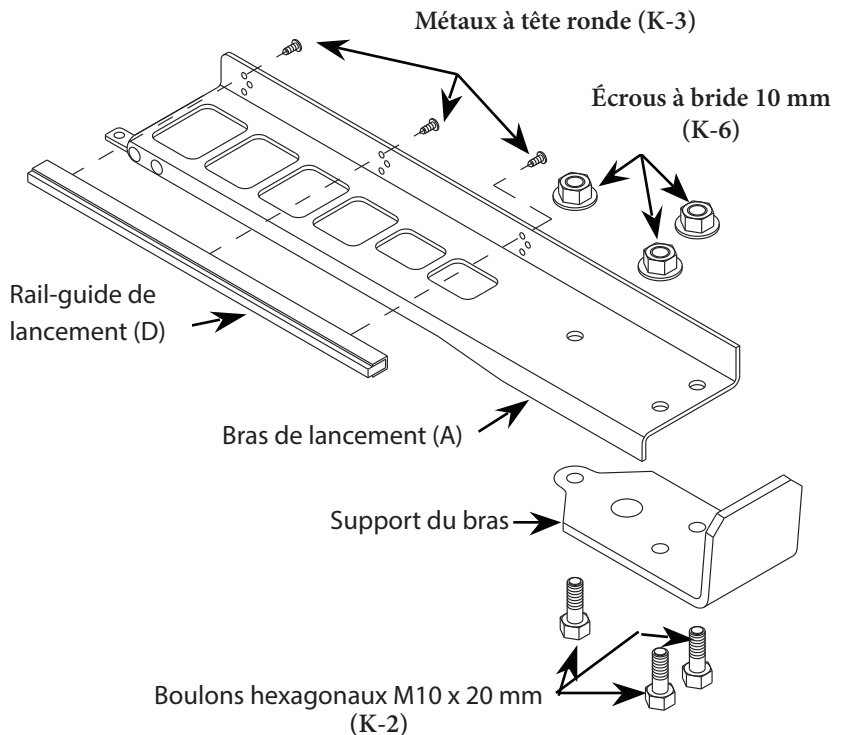

FIGURE 4
ASSEMBLAGE DU BRAS DE LANCEMENT (FIG. 4).
ASSEMBLAGE DU RAIL-GUIDE DE LANCEMENT (FIG. 4)
• AJUSTEMENT DU RAIL-GUIDE DE LANCEMENT (FIG. 4).